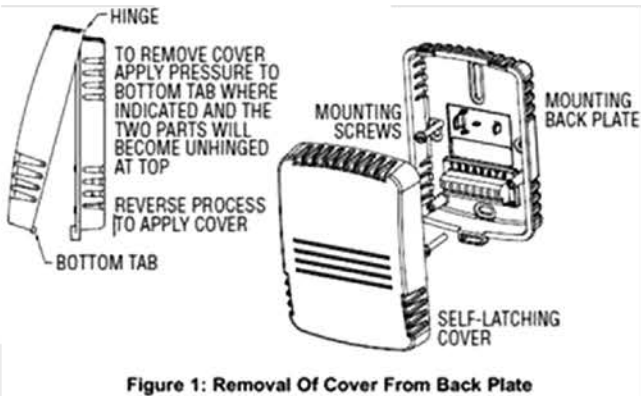

Figure 1: Removal Of Cover From Back Plate
1. Push tab on bottom of cover and lift cover from back plate (See Figure 1).